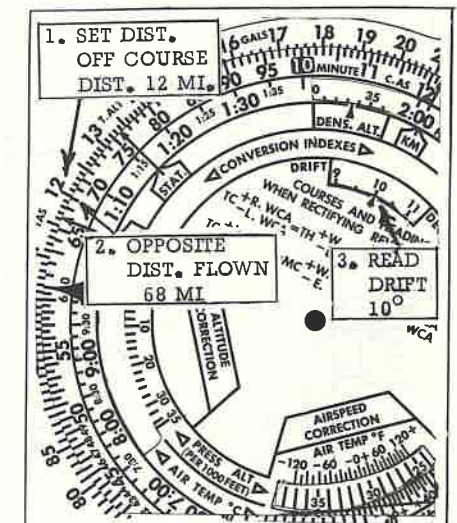

FIG. 16
2. SEE FIG. 16. Align 12 on the outer stationary scale with 68 on the minute scale then read on the auxiliary scale 10 deg.